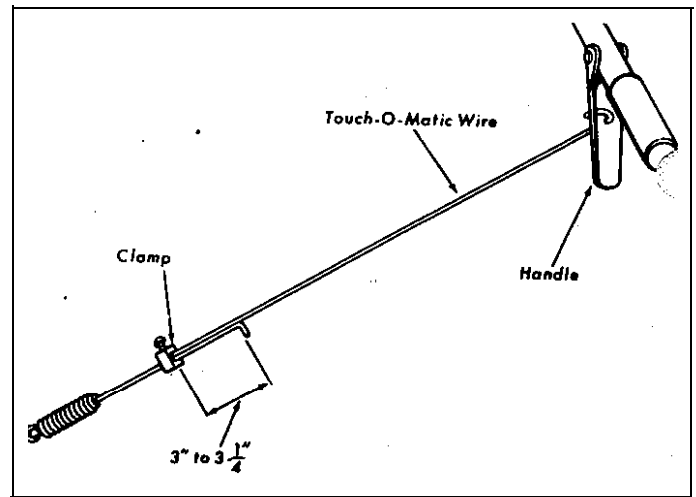

Figure 2.
4. Insert the Touch-O-Matic extension wire through the wire clamp. For proper belt tension, adjust as shown in Figure 2.
The direction of travel of the Sno-Away is controlled by the position of the transmission shift lever. Refer to Figure 2. When shifting the transmission, always release Touch-O-Matic control. With the clutch disengaged, push down on the transmission shift lever and the transmission will shift